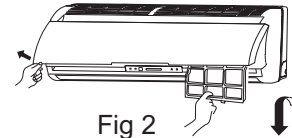

Fig 2
2. Take out the filtering screen of air cleaner as shown in Fig 2.